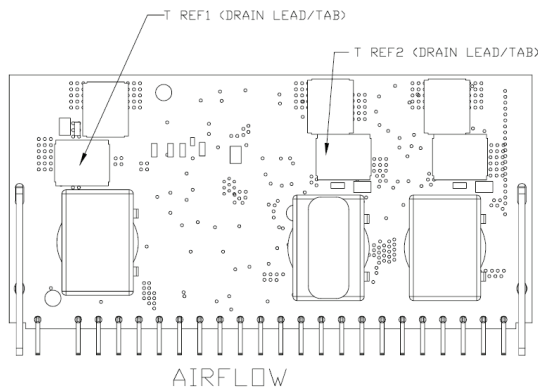

Figure 45. Temperature measurement locations T_{ref1} and T_{ref2} .
The thermal reference points, T_{ref1} and T_{ref2} used in the specifications are shown in Figure 45. For reliable operation this temperatures should not exceed 120 °C.